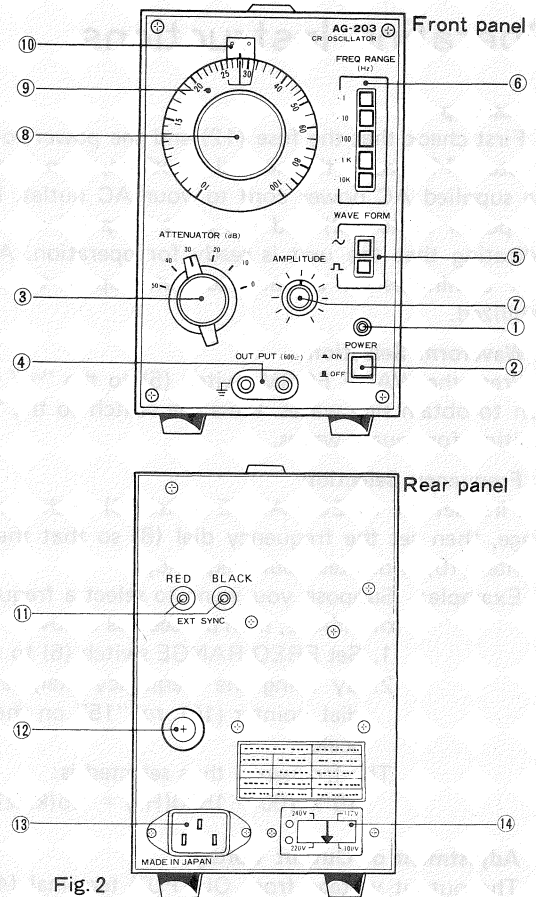

Fig. 2
**External view:** See Fig. 2 on page 9
**Dimensions:** Casing; 128(W) x 238(D) x 190(H) mm